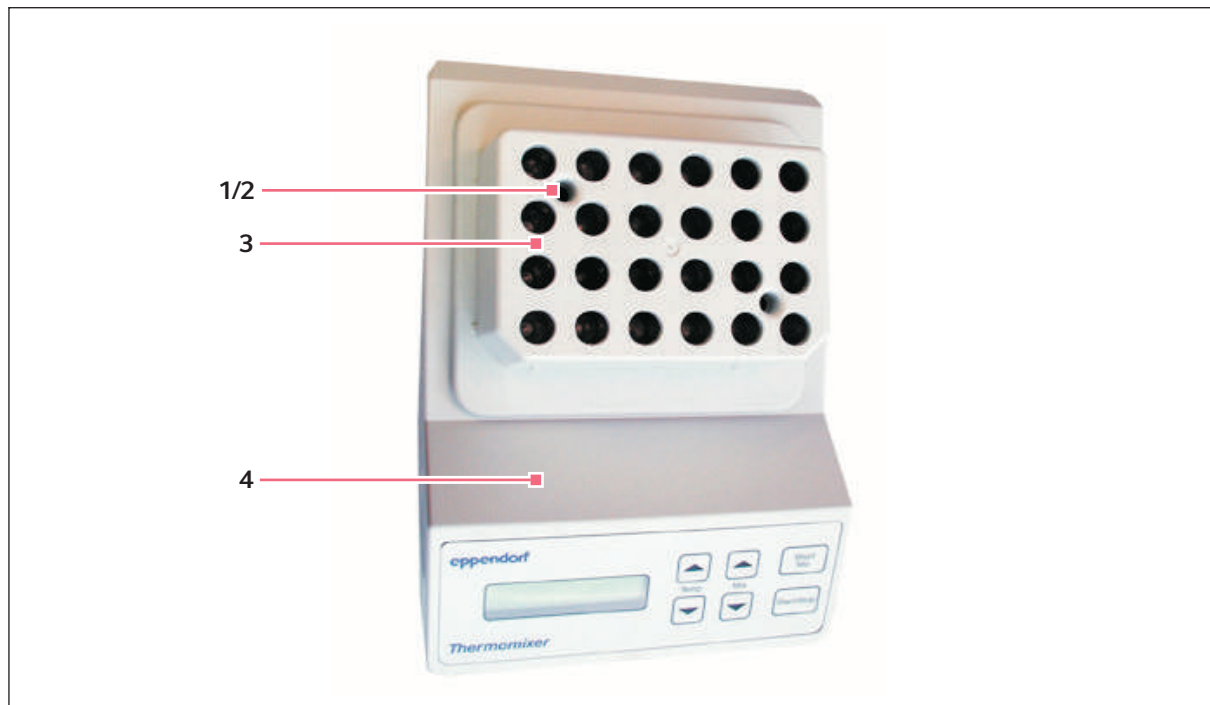

Fig. 6-1: View from above
5. Remove both cover plugs (see Fig. 6-1 on p. 23).
6. Remove both of the Allen screws (see Fig. 6-1 on p. 23).
7. Remove the thermoblock (see Fig. 6-1 on p. 23) upwards.
4. Lift the upper part of housing (see Fig. 6-1 on p. 23) and remove the plug connection to the keypad.